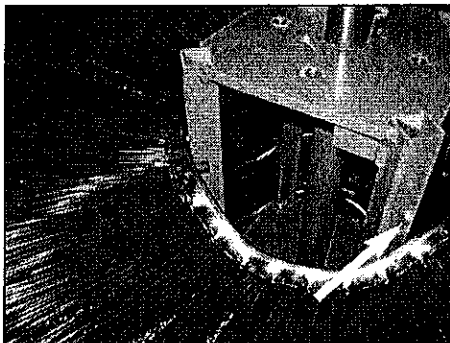

Figure 33
8. Slide the first, polypropylene section onto the core (Figure 33). Be sure drive pins on brush wafer (Figures 33 and 34) straddle a tube.